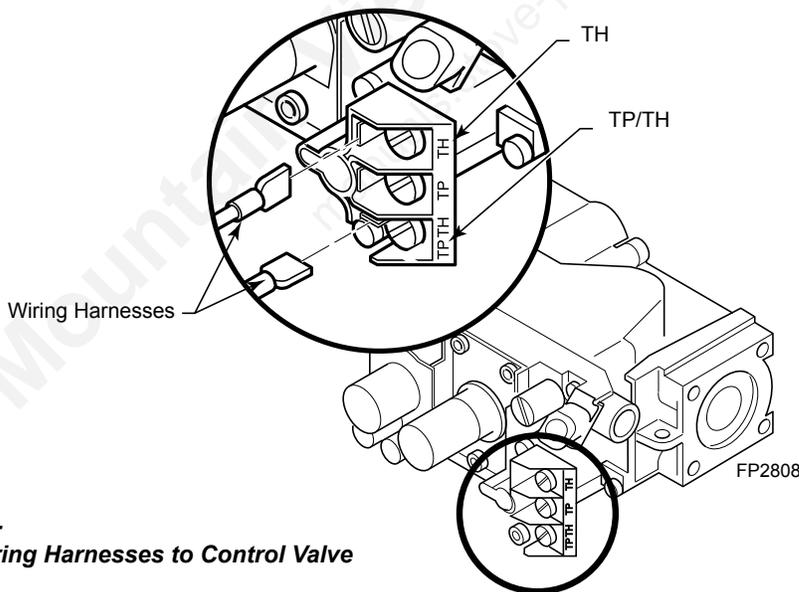

**Figure 20 -
3. Using Phillips screwdriver, install t-stat sensor to bracket with two screws provided. *Figure 20*. Make sure the thermo bulb wire is at the bottom of t-stat sensor.
4. Plug in wiring harnesses to back of t-stat sensor. *Figure 20*.